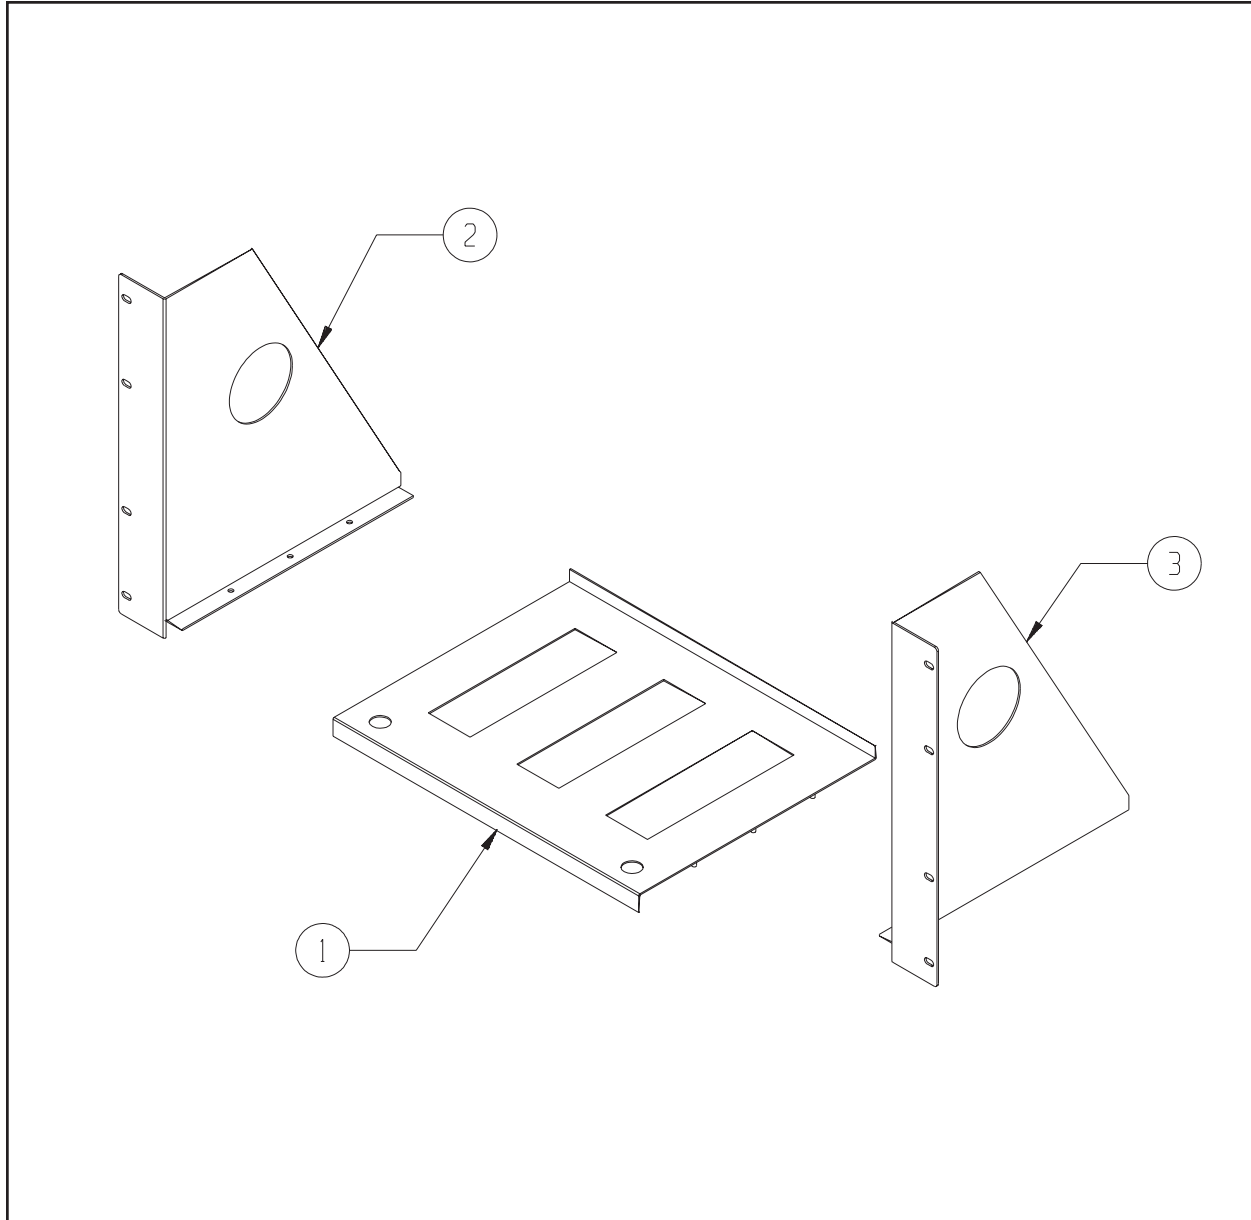

Figure 2. RMA131SU Rack Kit Assembly
1. Assemble the rack as shown in Figure 2 using the supplied hardware.